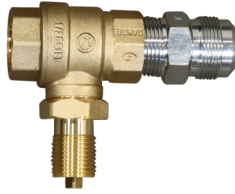

Figure 22: Connecting the Flared Fitting to the Key Valve
6.4 Apply thread sealant to the non-flared end of the second flared fitting and screw into one side of the provided key valve using thread sealant. Tighten with a wrench to avoid leaks. **{See Figure 22}**